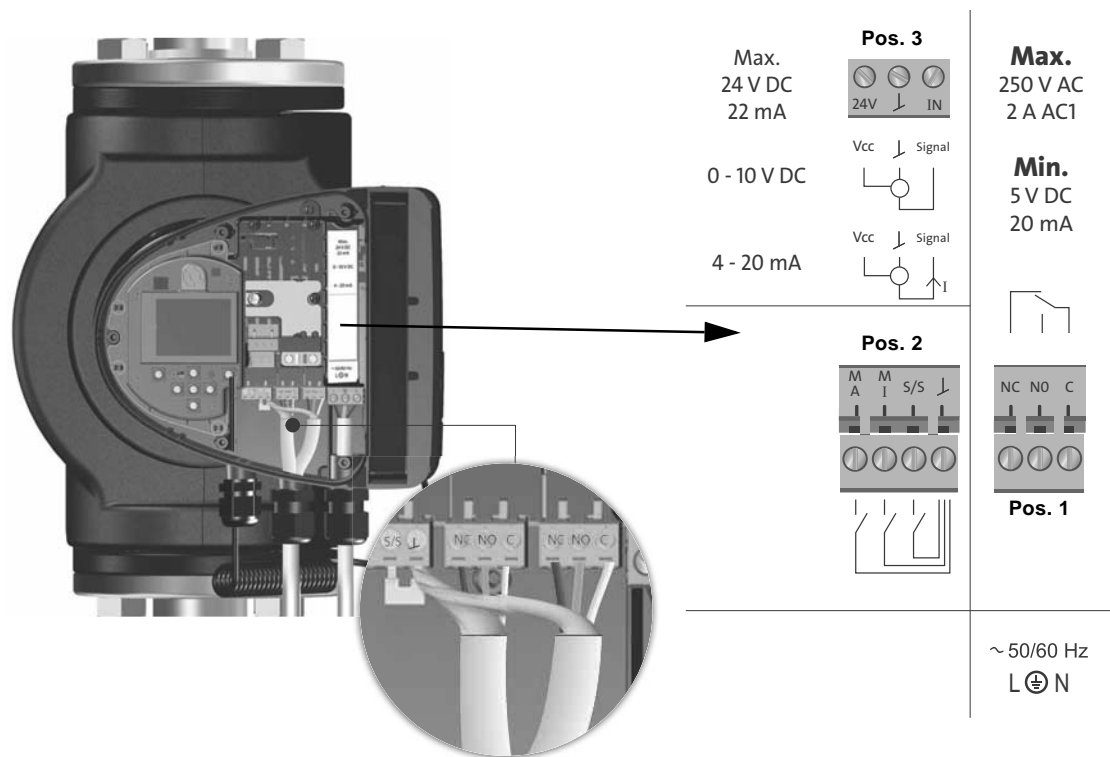

Fig. 25 Wiring diagram, terminal-connected versions
Connect the cable screen to earth via the digital-input terminal. See fig. 25.
See fig. 25, pos. 1.
See fig. 25, pos. 2.